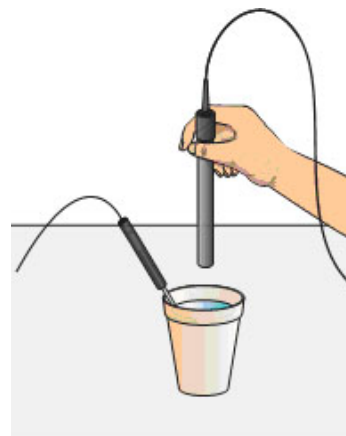

Figure 5
9. Place the Temperature Probe in the Styrofoam cup as shown in Figure 5. Place the shaft of the Dissolved Oxygen Probe into the water and gently stir. Avoid hitting the edge of the cup with the probe.